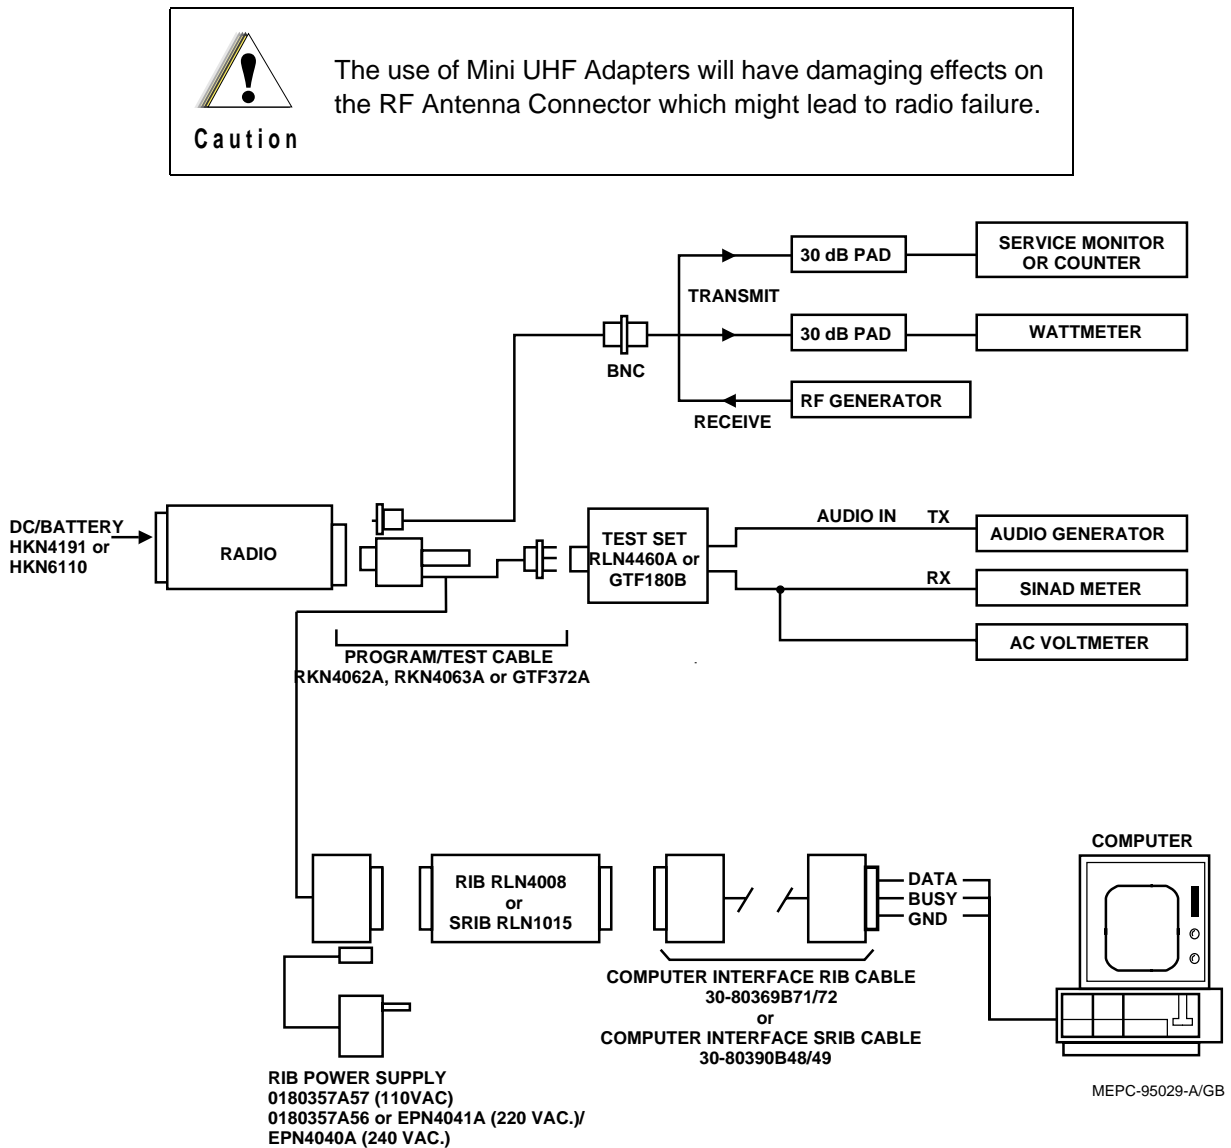

Figure 6-1. Radio Alignment Test Setup
To perform the alignment procedures, the radio must be connected to the PC, RIB (Radio Interface Box), and Test Set as shown in Figure 6-1.
5. Use the UP/DOWN arrow keys to adjust the reference oscillator per the targets shown in Figure 6-1.